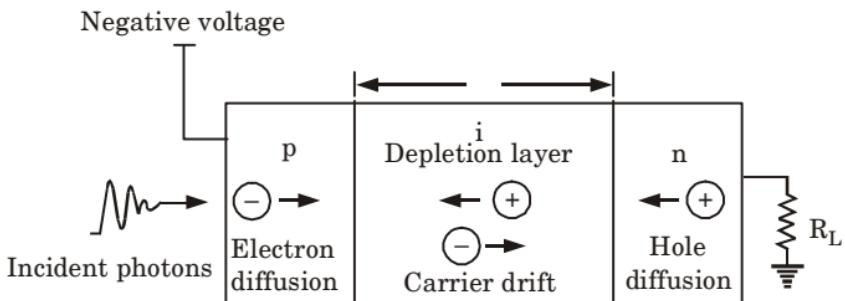

Fig. 4.15.1. Reverse biased PIN diode.
2. After observing Fig. 4.15.1 the total current density through depletion layer is